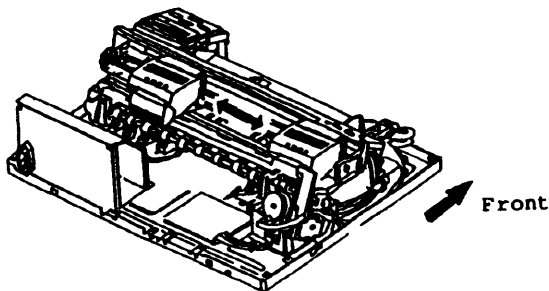

Figure 5
8. Move the carriage from left to right several times so that the grease is applied to the carriage shaft evenly. (Figure 5)
10. Move the carriage from left to right several times. (Figure 5)